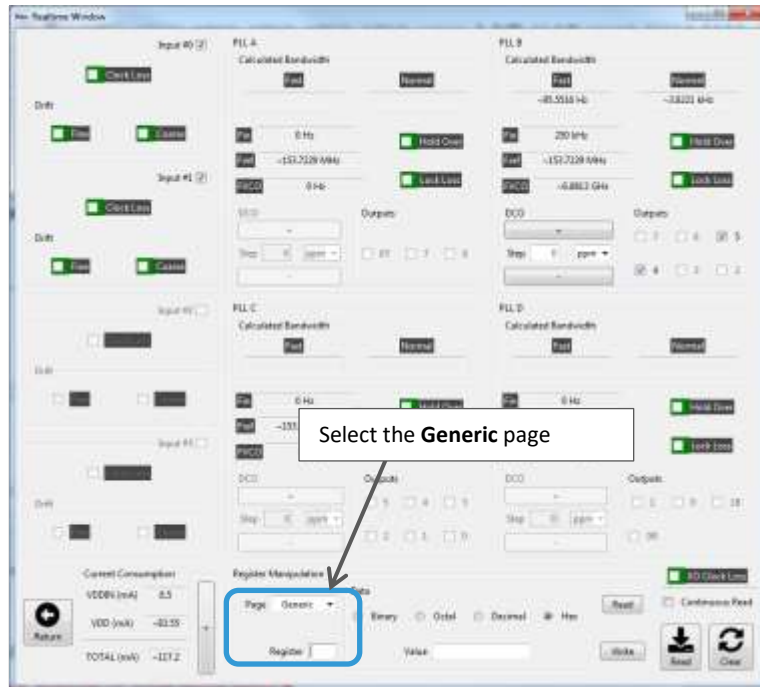

Figure 79: Selecting the Generic page in the Realtime Window’s Register Manipulation section of SiT95148 for JESD204B
2) Go to **Page 0: reg 0xFF = 0x00** or go to the **Generic** page in the **Realtime Window**, see Figure 79.